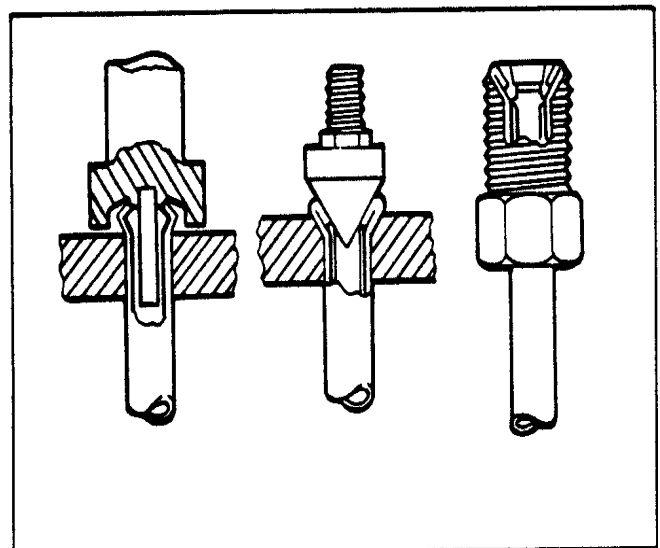

Figure 11 — Steps in Completing Double Flare
6. Use only steel tubing when replacement of tubing is required. Use old tubing as a pattern for forming and routing the new. Avoid kinks and sharp bends when forming tube. Use tubing cutter to cut tubing to required length making allowance for flare at each end of tube. Assemble tube nuts on tubing before flaring. After flaring tube, blow out with air pressure to remove any particles of dirt or chips. Do not discard old tube nuts until you are certain that new ones are available. Most hydraulic brake tubes are of double walled steel tubing coated to resist rust. The tube ends are of a double flare design to guard against leakage (Figure 11).